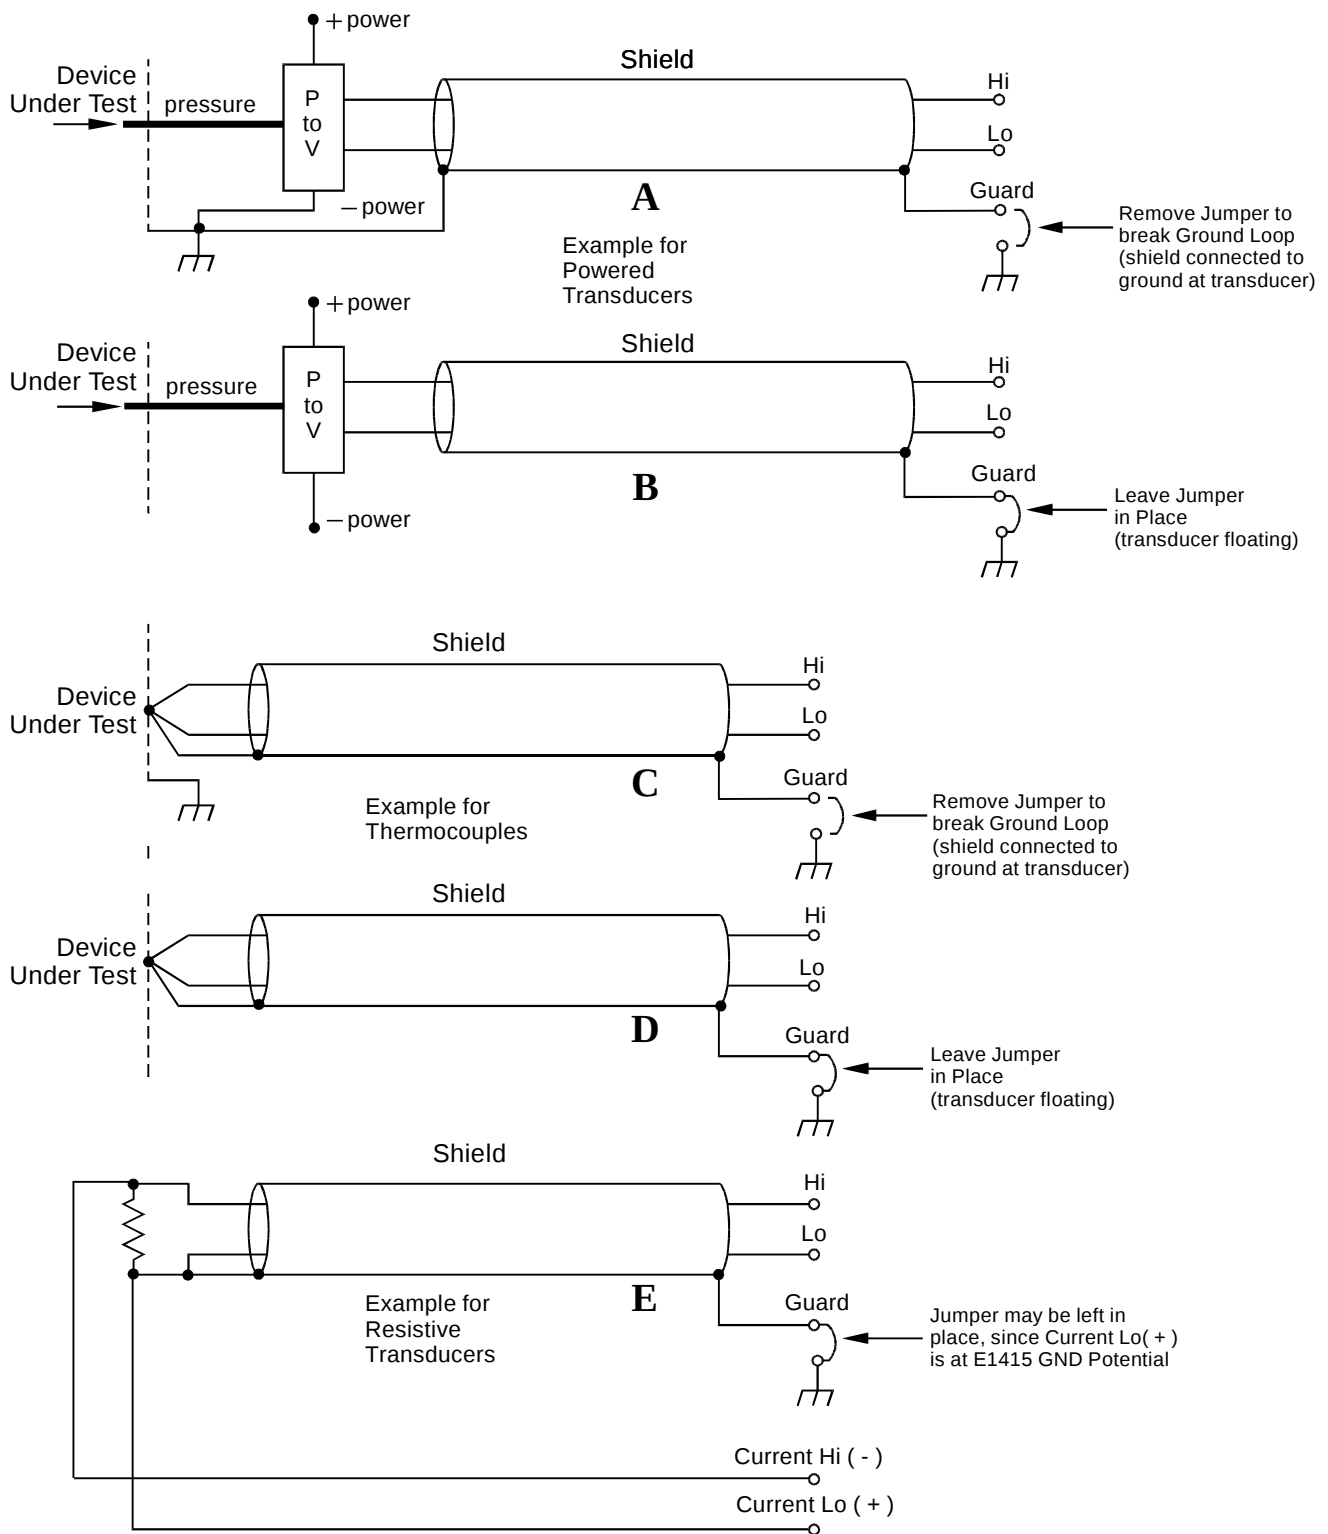

Figure 2-6. Preferred Signal Connections
For any A/D Module to scan channels at high speeds, it must use a very short sample period ($<10\mu\text{second}$ for the HP E1415). If significant normal mode noise is presented to its inputs, that noise will be part of the measurement. To make quiet, accurate measurements in electrically noisy environments, use properly connected shielded wiring between the A/D and the device under test. Figure 2-6 shows recommended connections for powered transducers, thermocouples, and resistance transducers. (See Appendix E page 361 for more information on Wiring Techniques).
- a. **Grounded Transducer with shield connected to ground at the transducer:** Low frequency ground loops (DC and/or 50/60Hz) can result if the shield is also grounded at the Terminal Module end. To prevent this, remove the GND-GRD jumper for that channel (Figure 2-6 A/C).
- b. **Floating Transducer with shield connected to the transducer at the source:** In this case, the best performance will most likely be achieved by leaving the GND-GRD jumper in place (Figure 2-6 B/D).